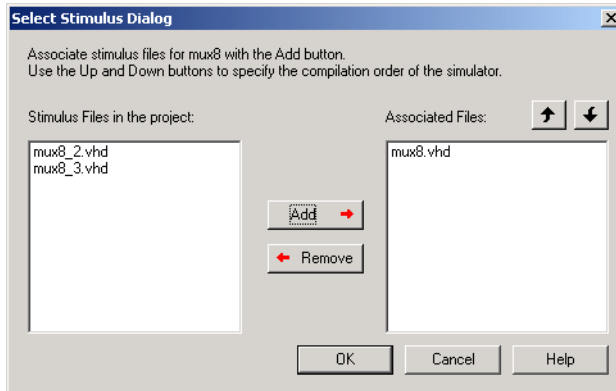

Figure 9-2. Select Stimulus Dialog Box
2. **Select stimulus file (s).** Right-click the top level module in the Design Hierarchy Menu. Click *Select a Stimulus File* from the right-click menu. The Select Stimulus dialog box appears, as shown in Figure 9-2.
2. **Select stimulus files.** Right-click the top level module in the Design Hierarchy Menu. Click *Select Stimulus* from the right-click menu. The Select Stimulus dialog box appears, as shown in Figure 9-2.